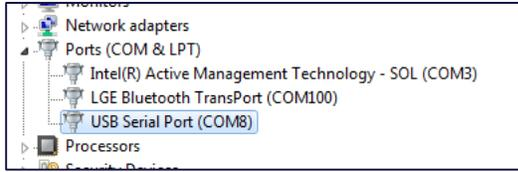

Figure 1: Device manager
2. Locate and note the COM port in Windows Device Manager. The COM port number varies on each computer (Figure 1).